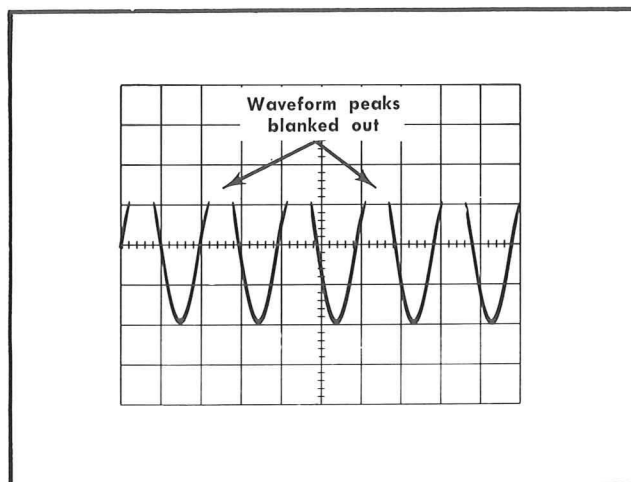

Fig. 5-31. Typical CRT display when checking external blanking.
- f. CHECK—The positive peaks of the displayed signal should be blanked with a normal INTENSITY control setting (see Fig. 5-31).